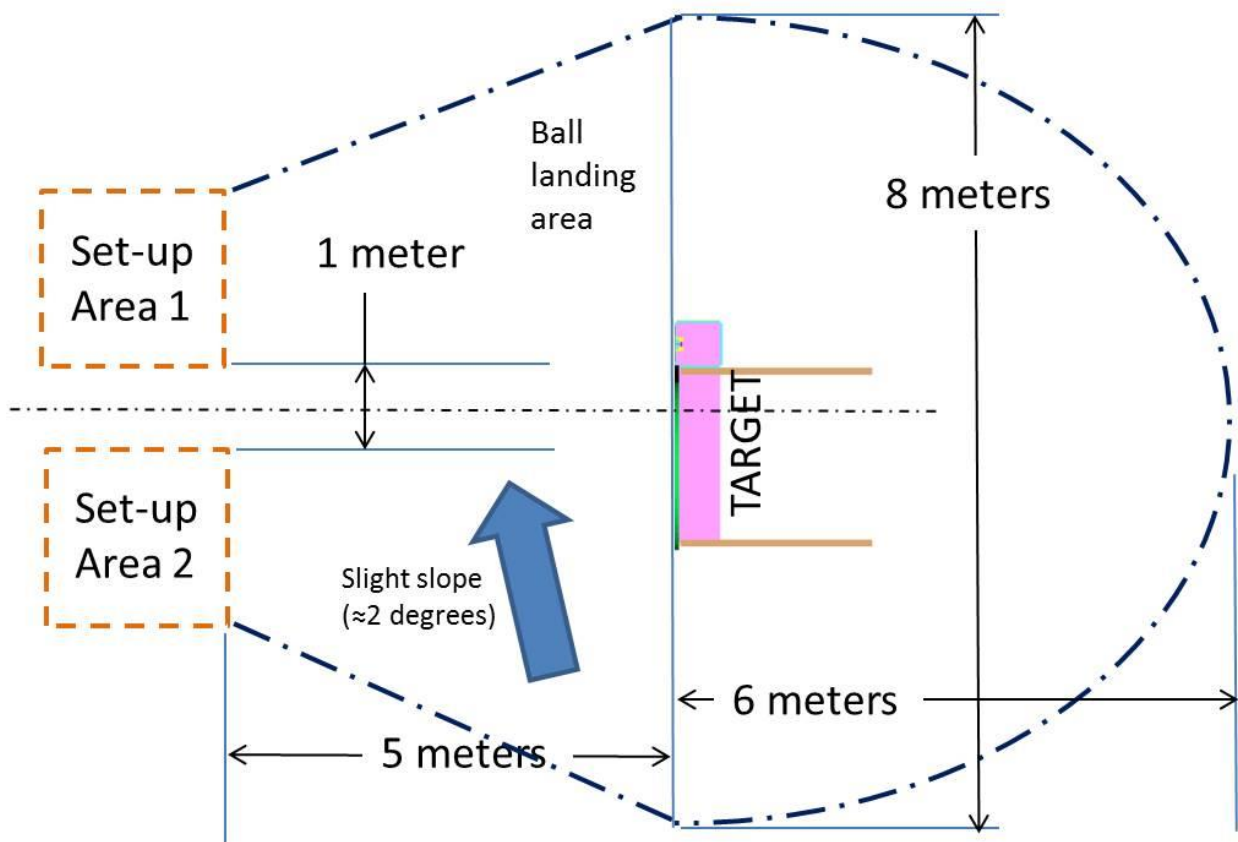

Figure 1. Contest Area – top view
- a. Be able to propel three official playground balls (described in Rule 6d) to three separate targets (described in Rule 8) and have the ball hit the ground within ball landing area (described in Figure 1). Only three “launches” are allowed and each ball can only be “launched” once. Each team is allowed to receive points for any particular target only once. The targets are located 5 meters away from the device set-up area as shown in Rule 7. If the ball hits the ground for the first time outside of the landing area, 15 points will be deducted from the accumulated total of points.
- 7) The contest site is located in front of the steps leading to Building 180. The site will contain two side-by-side areas for setting up and operating the device. The size of each set-up area is 2 meters by 2 meters. Each team will be randomly assigned to either operating area. The ground is concrete with a rough finish and has a slight slope (approximately 2 degrees across the width as shown in Figure 1). See Figure 1 for a description of the contest area.